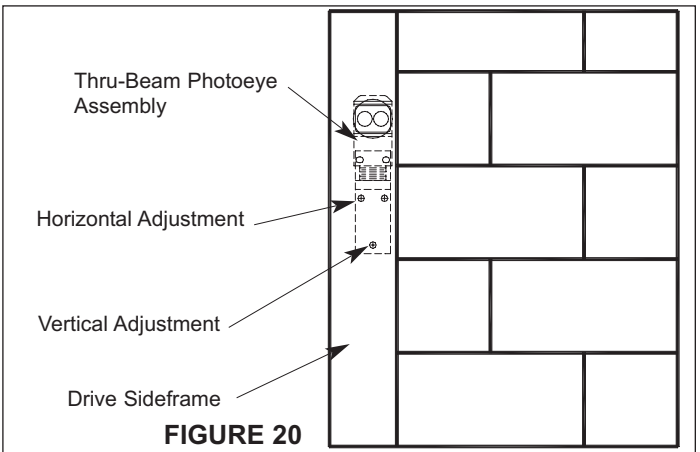

FIGURE 20
1. Locate the Retro-reflective photoeye in the drive side sideframe assembly, Figure 20. Located on the back end of the photoeye assembly are three LEDs and one switch.
4. The red and green LED's will be on when the photoeye and the reflector assembly are lined up correctly. If the red and green LED's are OFF, either the beam is blocked or the photoeye is out of alignment. Adjust using the screws on the sideframe beneath the photoeye, Figure 20. The two top screws allow for horizontal adjustment and the single bottom screw adjusts vertical alignment. Rotate the screw until the LED's turn ON. If after three turns the red and green LED's do not turn on, reverse direction.